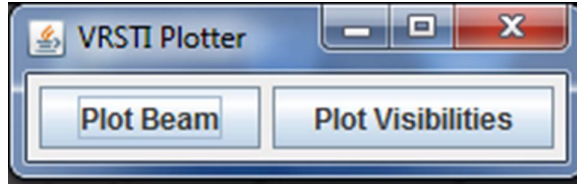
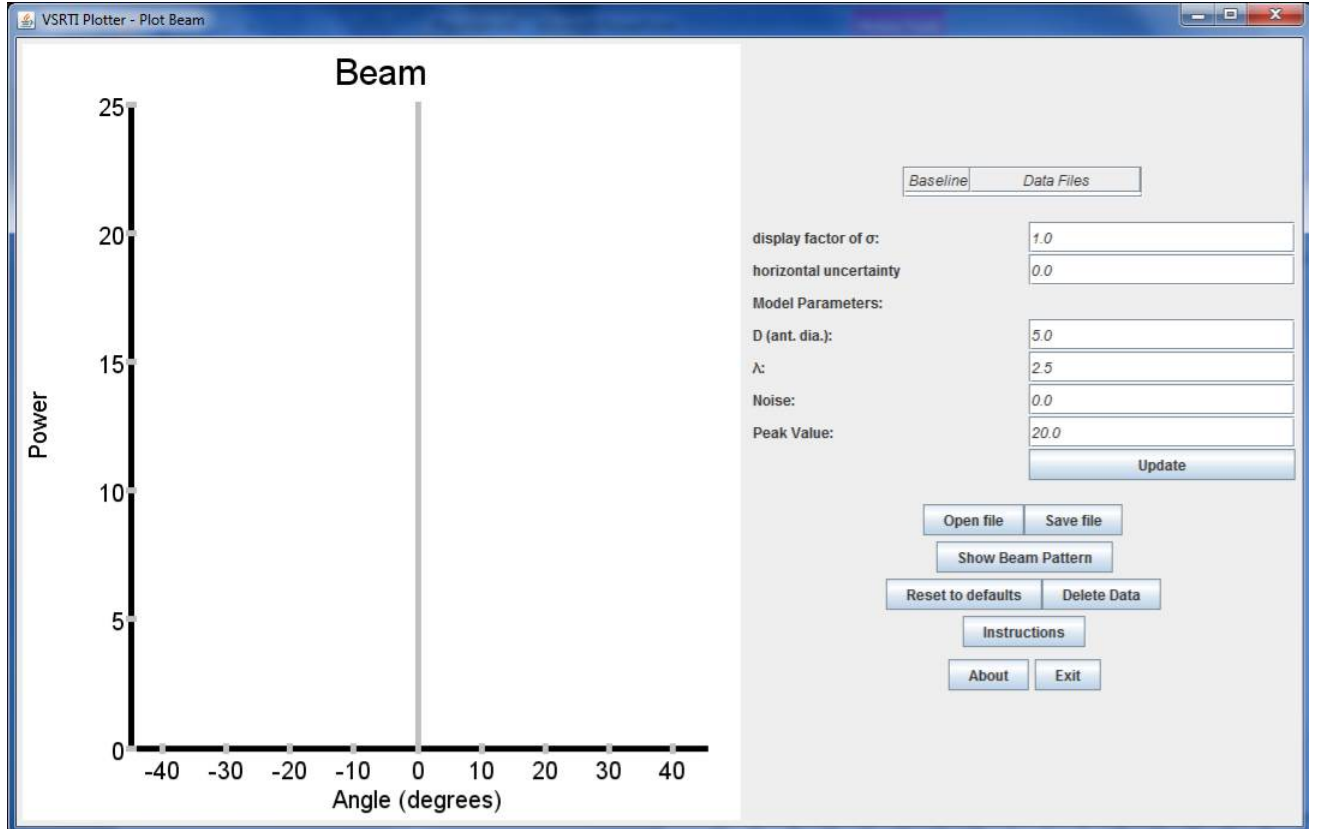

FIG. 5: The first window to appear in the VSRTI\_Plotter package.
FIG. 6: The display when running “Plot Beam” in the VSRTI.Plotter package.
1. Click on the “VSRTI\_Plotter” icon. A small rectangular window like that in Figure 5 should appear. This window gives you a choice of programs to run. The instructions for each lab will tell you which one you need for that lab. For now, select the “Plot Beam” program. You should see another window pop up, like that shown in Figure 6.